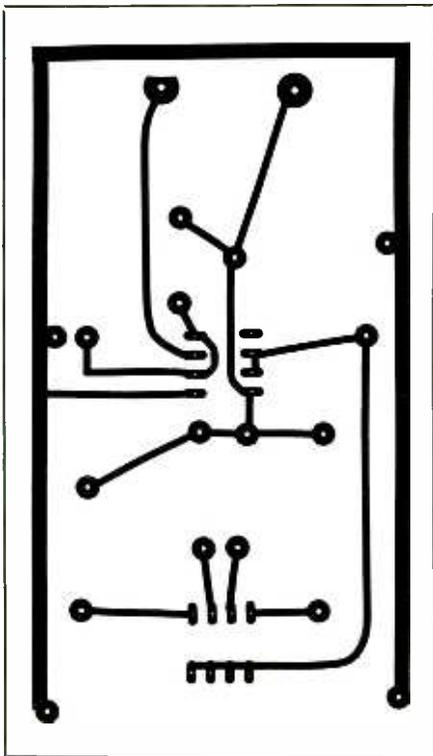
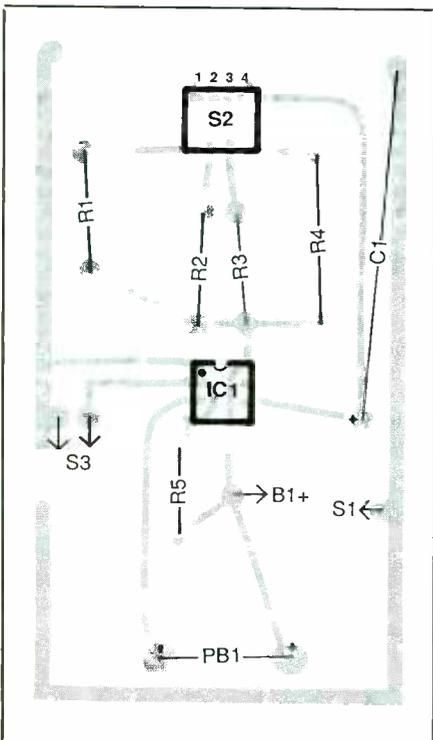

Fig. 2. Actual-size etching-and-drilling guide for printed-circuit board for project.
Fig. 3. Wiring guide for pc board.
LC network will ring at approximately 1 MHz. The scope will display a ringing waveform like that shown in Fig. 2. If L has considerable distributed capacitance, the effective total capacitance in shunt to L will be significantly greater. The result will be that the network will ring at a lower frequency—as low as 0.5 MHz.
As illustrated in Fig. 2(B), this basic ringing waveform has a decaying (damped) sine-wave shape and the damping is exponential. An exponential waveform represents the natural physical law of growth and decay. The rate of decay is determined by the winding resistance of the inductor and effective shunt resistances, such as eddy currents and radiation resistance.
Fig. 2. Example of a ringing waveform with exponential decay. (A) is the pattern of the waveform as it would appear on the screen of an oscilloscope; (B) is the graphed plot of the waveform parameters versus time.
Fig. 3. Details of an AM i-f transformer: (A) Thevenin representation; (B) plots of primary signal-current flow of three degrees of coupling; (C) plots of secondary current flow of three degrees of coupling.
If you wish to use a printed-circuit board, use the actual-size etching-and-drilling guide shown in Fig. 2 to fabricate one. When the board is ready, drill a hole in each of its four corners in locations where they will not interfere with any conductor runs and place the board on your work surface oriented as shown in Fig. 3. (Note: Use the layout shown in Fig. 3 as a rough guide to component place-